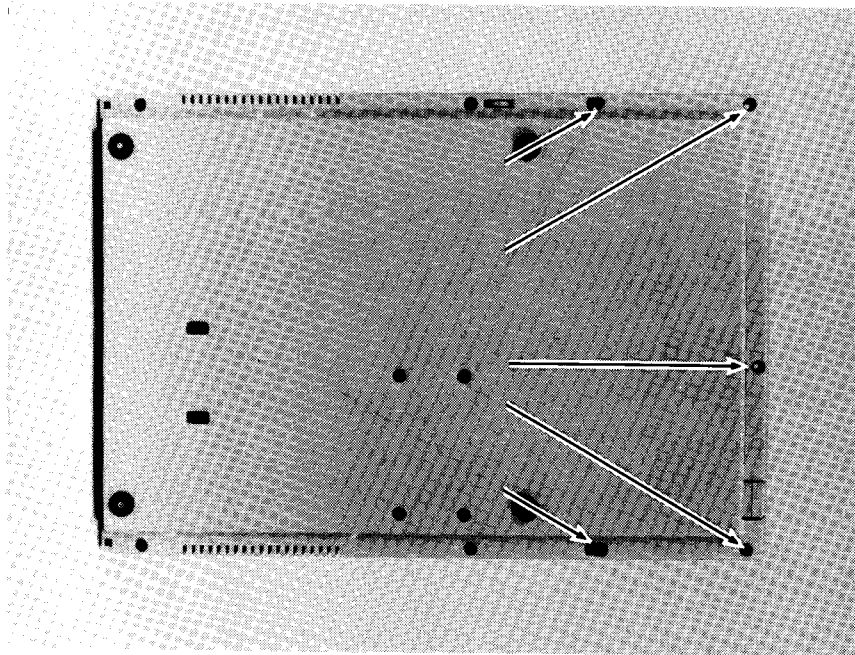

Figure 4-21. Keyboard Screws
3. Remove the five screws shown in Figure 4-21.
When reinstalling the rectifier board, use the wiring diagram shown in Figure 4-21 and the wire list shown in Table 4-5.